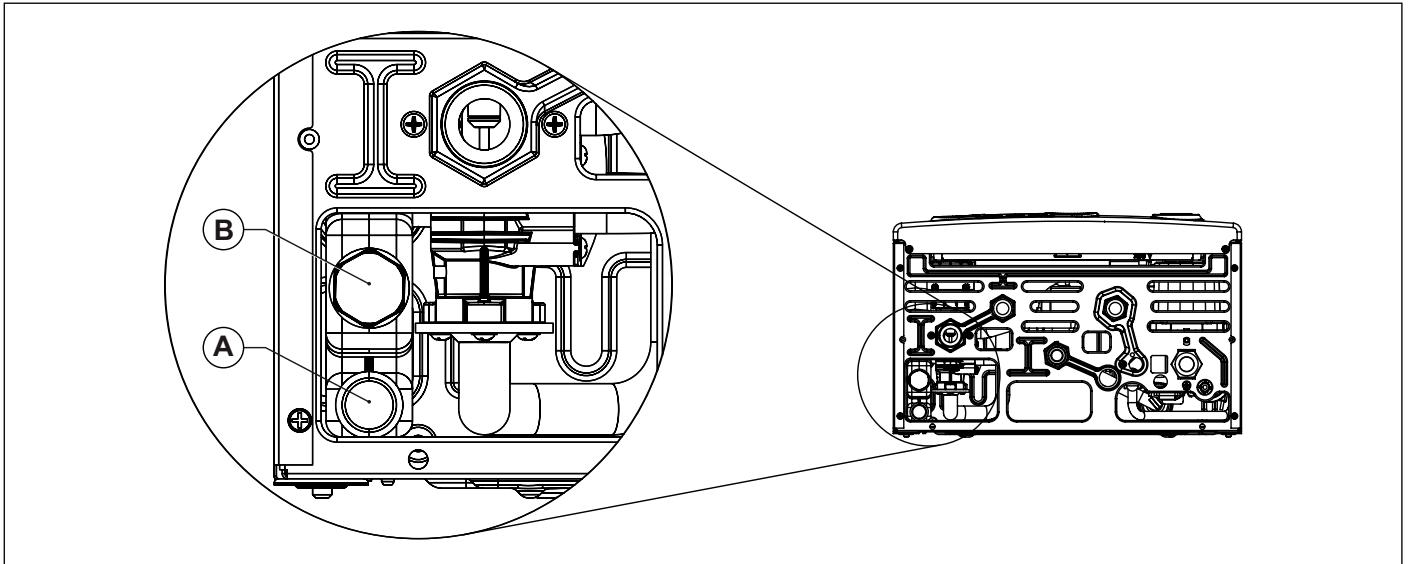

Fig. 20 Condensate drain
Condensate drain system must be connected to specific fitting (A) in the boiler (see Fig. 20 Condensate drain).